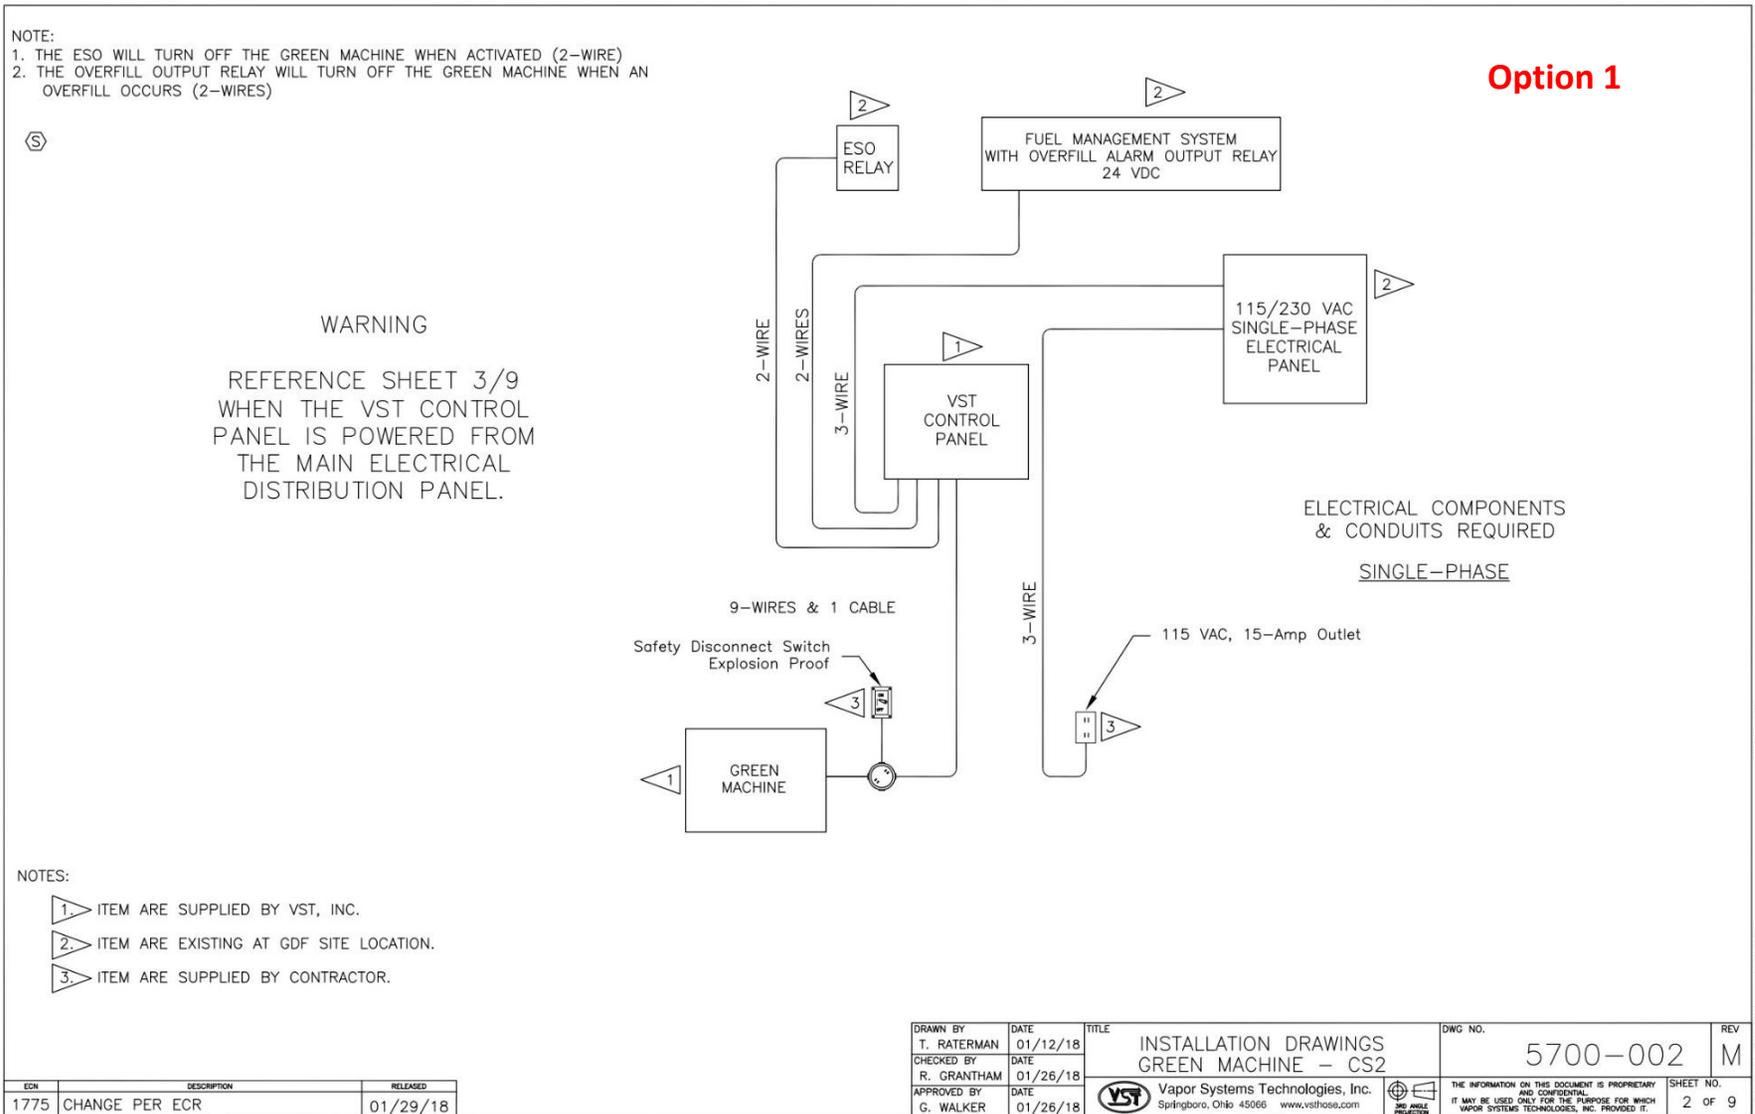
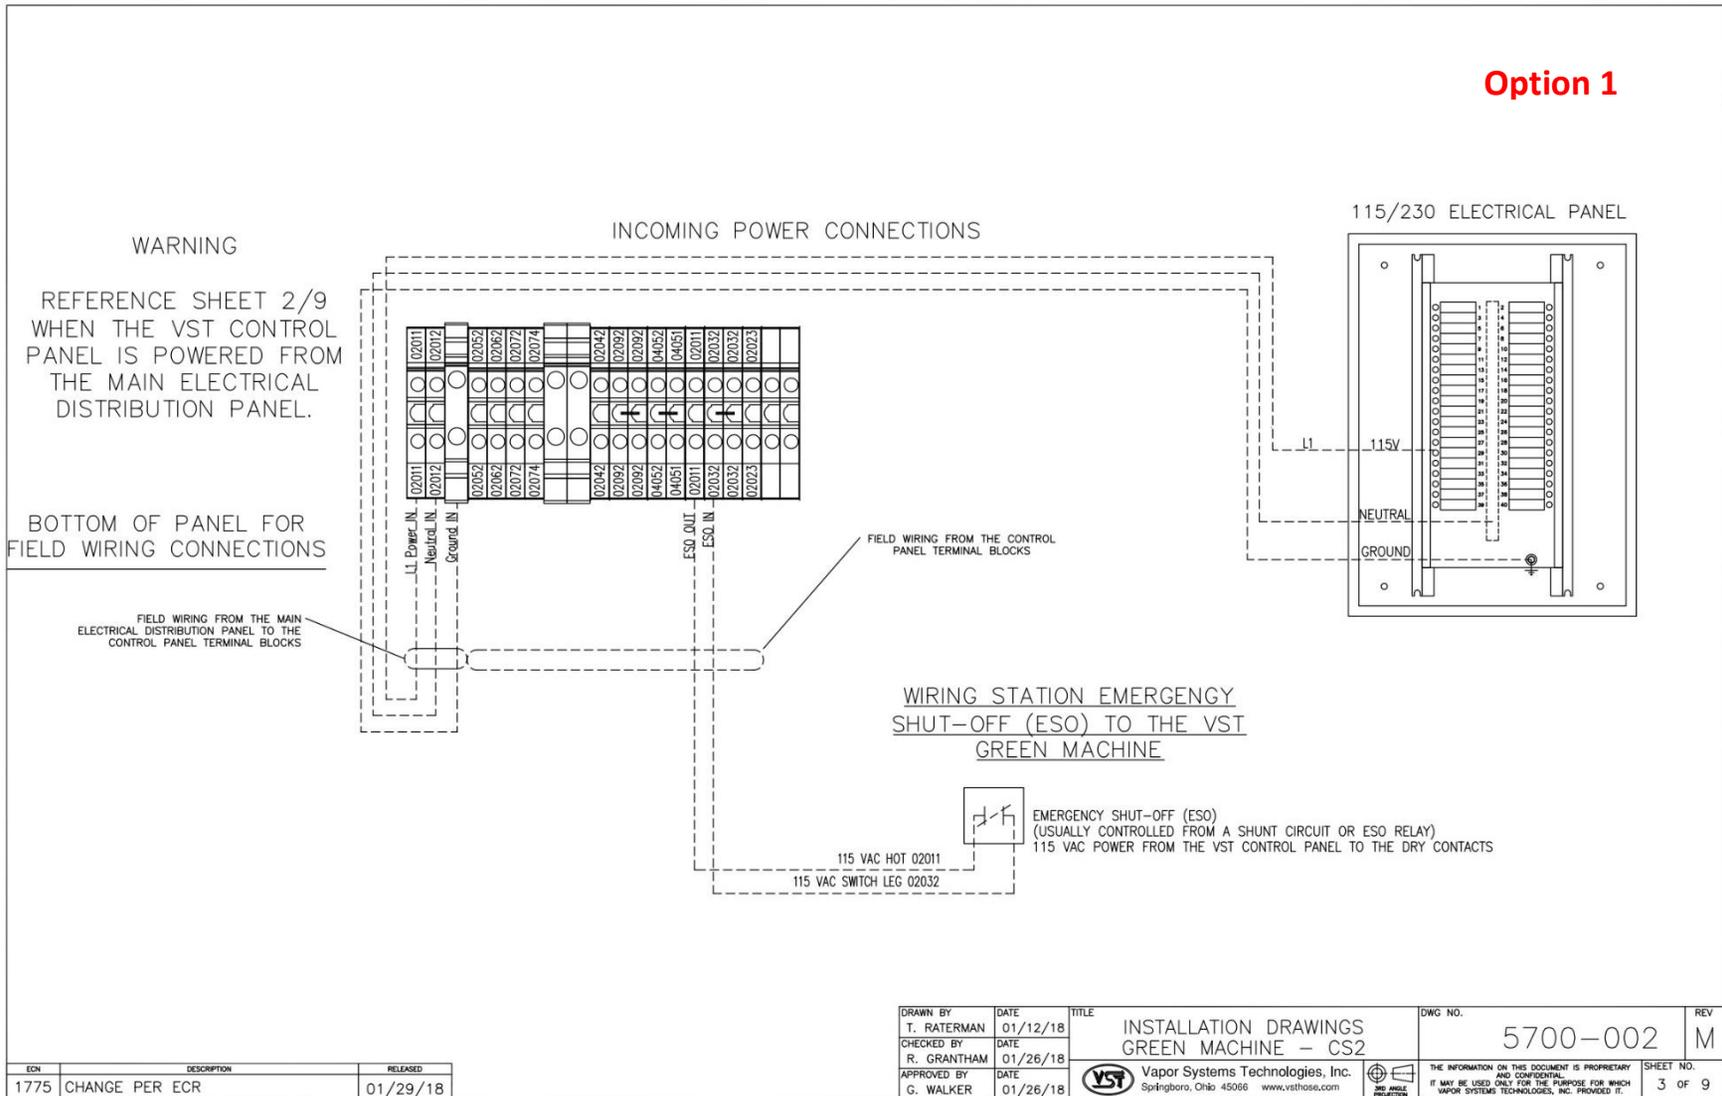

Figure 8-5: Electrical Field Wiring Diagram
Figure 8-6: Incoming Power Connections
1.	Verify that the Breaker for the VST Control Panel in the main power distribution panel is ON. If not, turn the breaker ON. See Figures 8-5 &amp; 8-6
3.	The VST Control Panel must supply 115 VAC power through an Emergency Shut-Off (ESO) dry relay for the VST Control Panel to have power and for the GREEN MACHINE to operate. See Figures 8-5 &amp; 8-6. <ul style="list-style-type: none"><li data-bbox="427 762 1198 789">a) Verify the VST Control Panel is connected to the station ESO.</li><li data-bbox="427 842 1398 905">b) Verify the ESO is not engaged. If the ESO is engaged the GREEN MACHINE will not have 115 VAC power.</li><li data-bbox="427 957 1344 1020">c) Verify all the wire connections from the VST Control Panel to the ESO are correct and tight.</li><li data-bbox="427 1041 1409 1136">d) Verify the ESO circuit has 115 VAC power from the VST Control Panel across terminals 02011 and 02032 on the field connections section of the VST Control Panel. See Figure 8-6.</li><li data-bbox="427 1188 1409 1251">e) Verify that the 115 VAC Over/Under Voltage Relay is adjusted to 118 VAC or at the local voltage. See Figure 8-10.</li></ul>